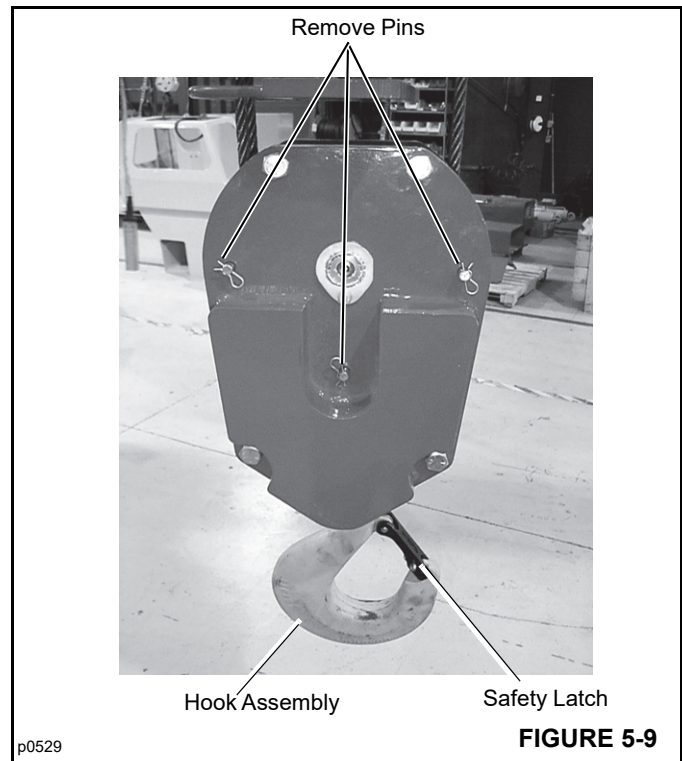

FIGURE 5-9
Ensure that the hook assembly's safety latch (Figure 5-9) does not get damaged.
4. Remove the three pins as indicated in Figure 5-9.
1. Remove the three pins and hook assembly from the hook block assembly. See Figure 5-9.